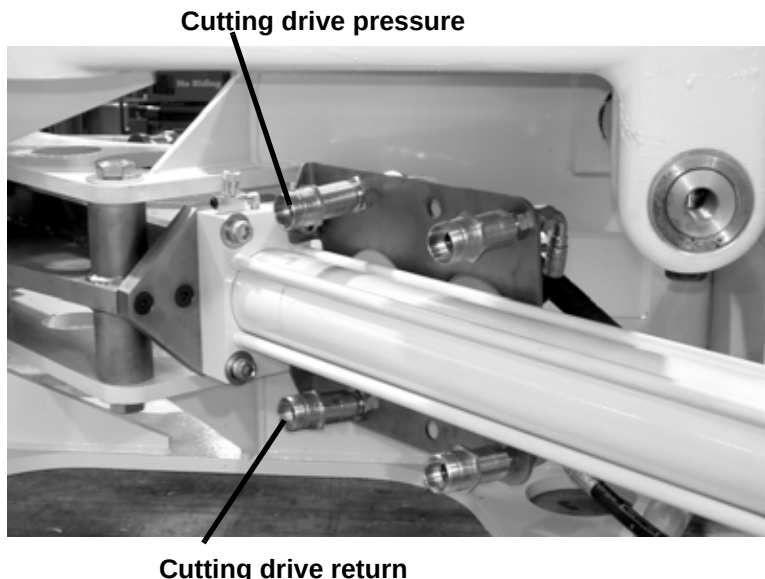

Figure 5-35. Connect the cutting drive hoses to the saw as shown.
2. Connect the cutting drive hoses from the TCU or hose reel to the fittings on the saw bulkhead as shown in Figure 5-35.